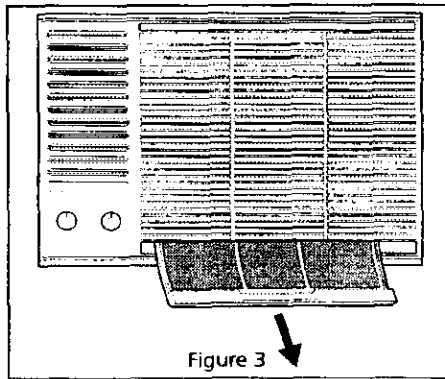

Figure 3
The vent control handle is included in the decorative front kit (Fig. 3). The handle must be installed before the decorative front is attached. See illustration below.
- For most installations in the window, this front may need to be removed to access the filter for cleaning (Figure 3). To remove the front, reverse the installation process for Side Air Discharge Models shown in Front Installation.